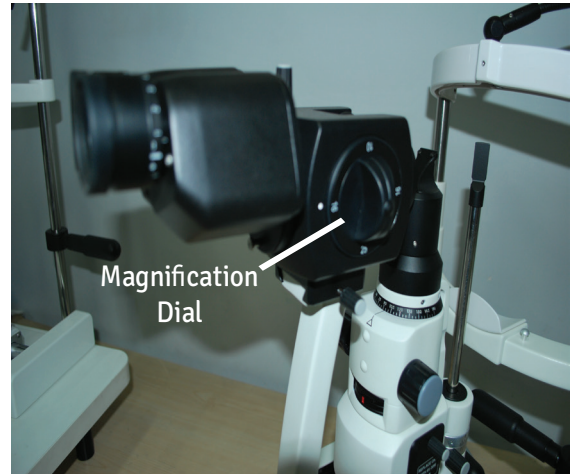

Figure-16 Illumination Angle
12. The angle between the illumination system and the microscope can be varied between 0° and 90° to either the left or to right. Refer to figure-16.
14. Magnification is altered by rotating the Magnification Dial on the Microscope Assembly. Refer to figure-16.